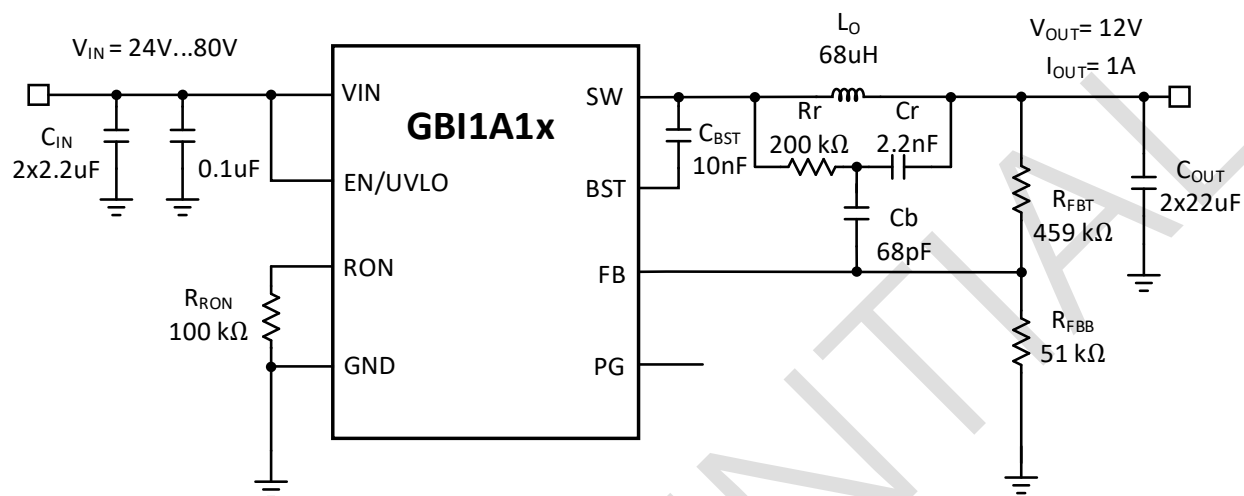
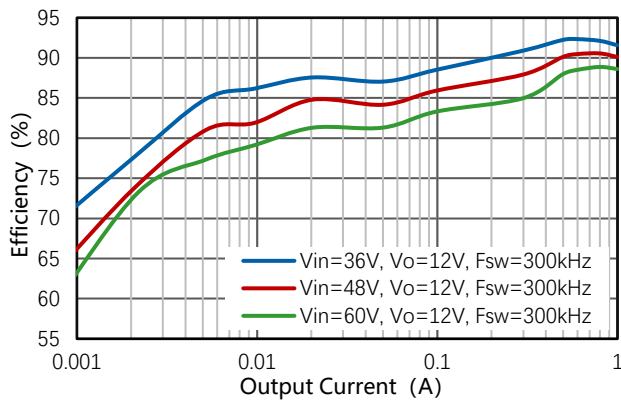

Figure 10-1. 48V Normal Input, 12V/1A Output with Type-3 Ripple Injection
Figure 10-2. Power Efficiency
The GBI1A1x output voltage can be easily set up using a resistor divider network R_{FBT} and R_{FBB} as shown in the typical application circuit Figure10-1. Use Equation (14) to calculate resistor divider values.
Table 10-2 and Table 10-3 list the recommended BOM for typical applications by referring Figure 10-1. Considering the capacitor's degrading under DC bias, it is recommended to leave margin on the voltage rating to ensure adequate effective capacitance. Typically, one 22 μ F(≥ 25 V) ceramic output capacitor work for most applications, if for achieving better load transient performance, two 22 μ F ceramic output capacitors are recommended. As described in 9.4, the ripple injection voltage is related to the R_{FBT} and R_{FBB} , so it is highly recommended to refer below table for BOM selection to avoid the unstable operation.
Figure 10-2 to Figure 10-17 are tested based on Figure 10-1 with GBI1A11.